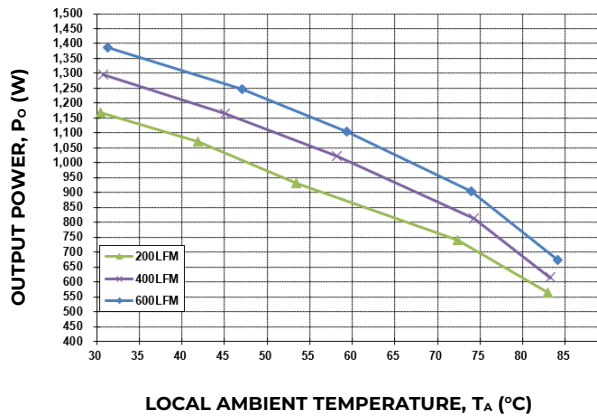

Figure 15. Output Power Derating for the Base Plate QBVS128A0B-H; Airflow Direction for Vout to Vin(Worst) orientation; Vin = 50V.
Increased airflow over the module enhances the heat transfer via convection. The thermal derating of figure 15– 18 shows the maximum output current that can be delivered by each module in the indicated orientation without exceeding the maximum TH1 temperature versus local ambient temperature (TA) for several air flow conditions.